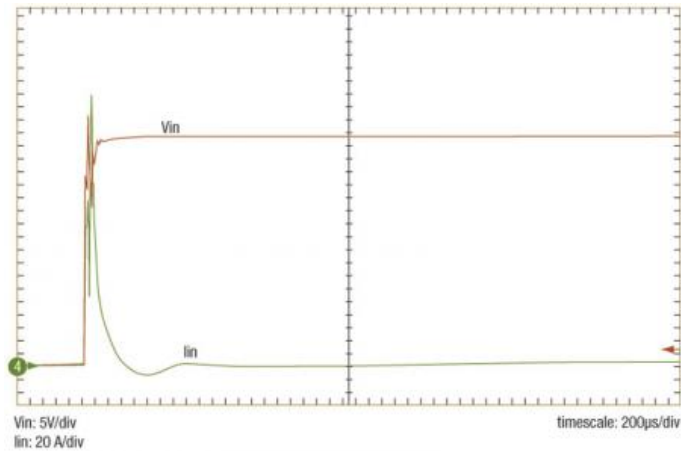
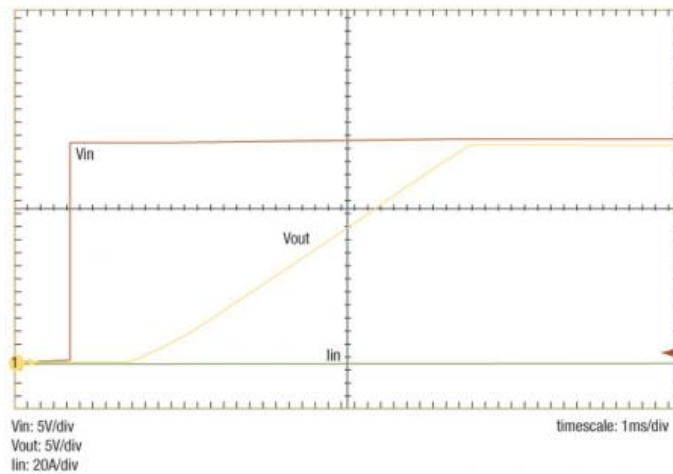

Figure 5
Figure 6
- Figure 5 - Shown here is the operation of a ty...
- Figure 6 - Shown here is the operation of a ty...
VPT now offers a new approach to solving the inrush current problem. The DVCL28 is a dedicated Inrush Current Limiter Module, packaged in a tiny 1-inch square hermetic case. It can power multiple EMI filters and DC/DC converters up to 11A or 200W over the full military temperature range of -55° to +125°C. The DVCL28 uses the circuit diagrammed in Figure 6 to control the output voltage ramp rate or dv/dt . The voltage waveforms shown with and without the inrush limiter are shown in Figure 5 and Figure 6. A 28V step function waveform is applied to the input. The rising slope of the output voltage is controlled to 6 V/ms, limiting the inrush current into a 500 uF capacitor to less than 3.5A peak.